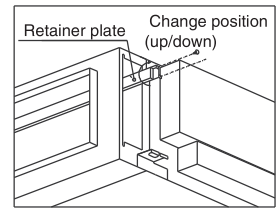

Fig.2
- (2) When using filter box PAC-KE63, 80, 140TB-F (using filter : high-efficiency filter), change the position (up/down) of the retainer plate. (Fig. 2)